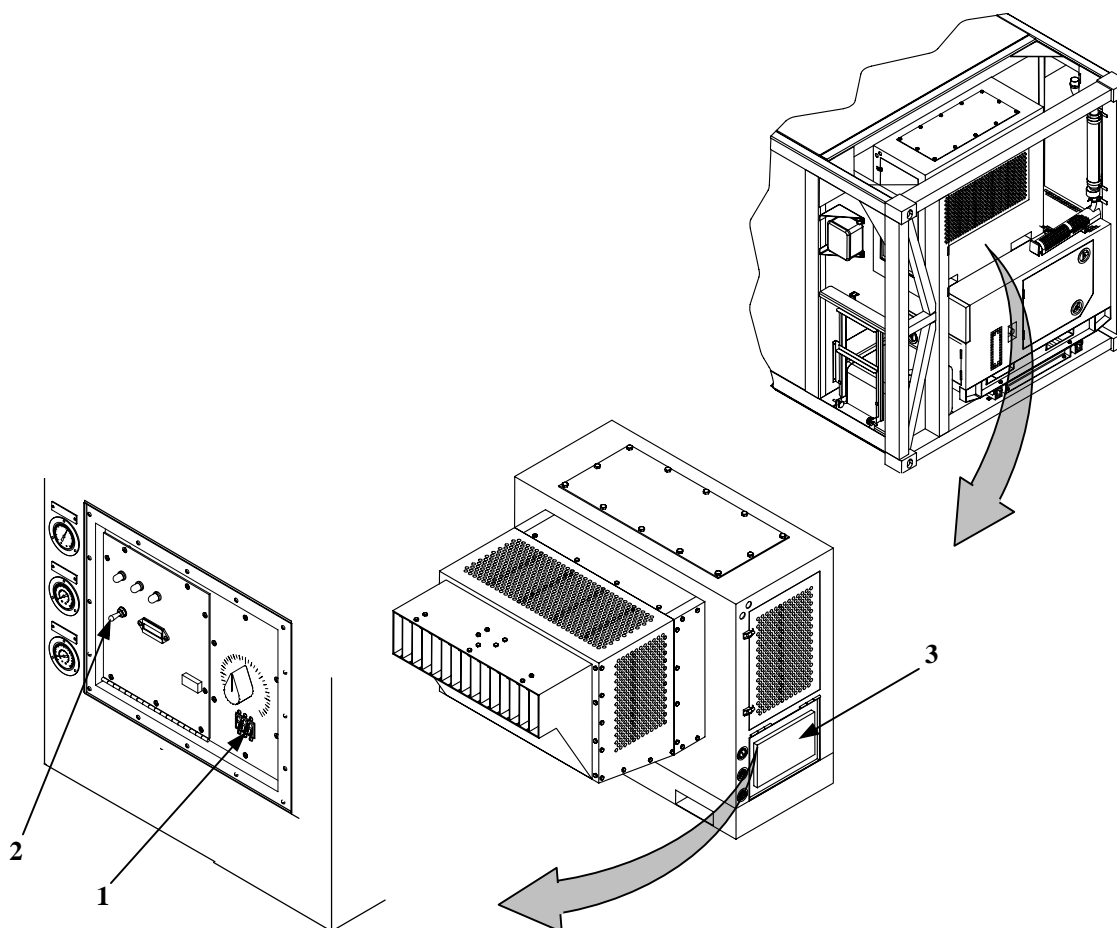

Figure 9. Refrigeration Unit Operation Procedures
OPERATING PROCEDURES – Continued.**REFRIGERATION UNIT STARTING PROCEDURE (Figure 9).**
4. With another person, release the Generator Set slide lock clamps (1, figure 9) and push unit (2) back into its stored position. Verify slide locks snap closed. Reinstall the two slide retaining bolts (3).